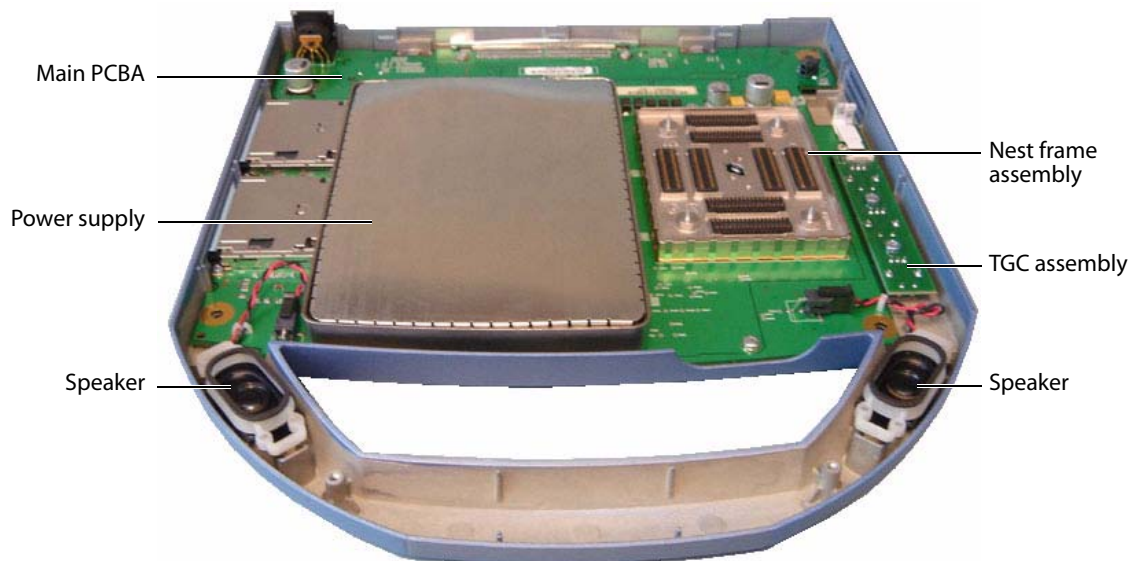

Figure 7.7 System Components
- 3 Turn the system over and remove the top enclosure from the main PCBA. This exposes all of the replaceable parts for the main system per Figure 7.7.